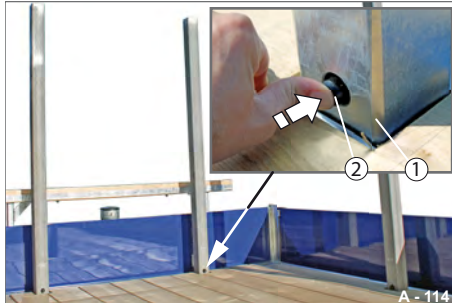

Fig. 169 Unlocking the slot-in posts
- Press in the locking button (Fig. 169/2).
The slot-in post (Fig. 169/1) is released.